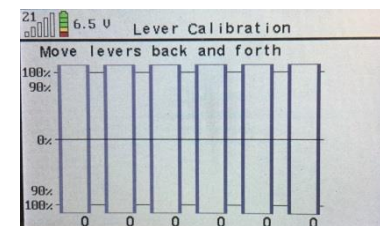

Figure: 21
- Press the ✓ button and you will be taken to the next screen. It says **Move levers back and forth**. Slowly operate the levers one at a time, from the maximum backwards position to the maximum forwards position (see figure 21).